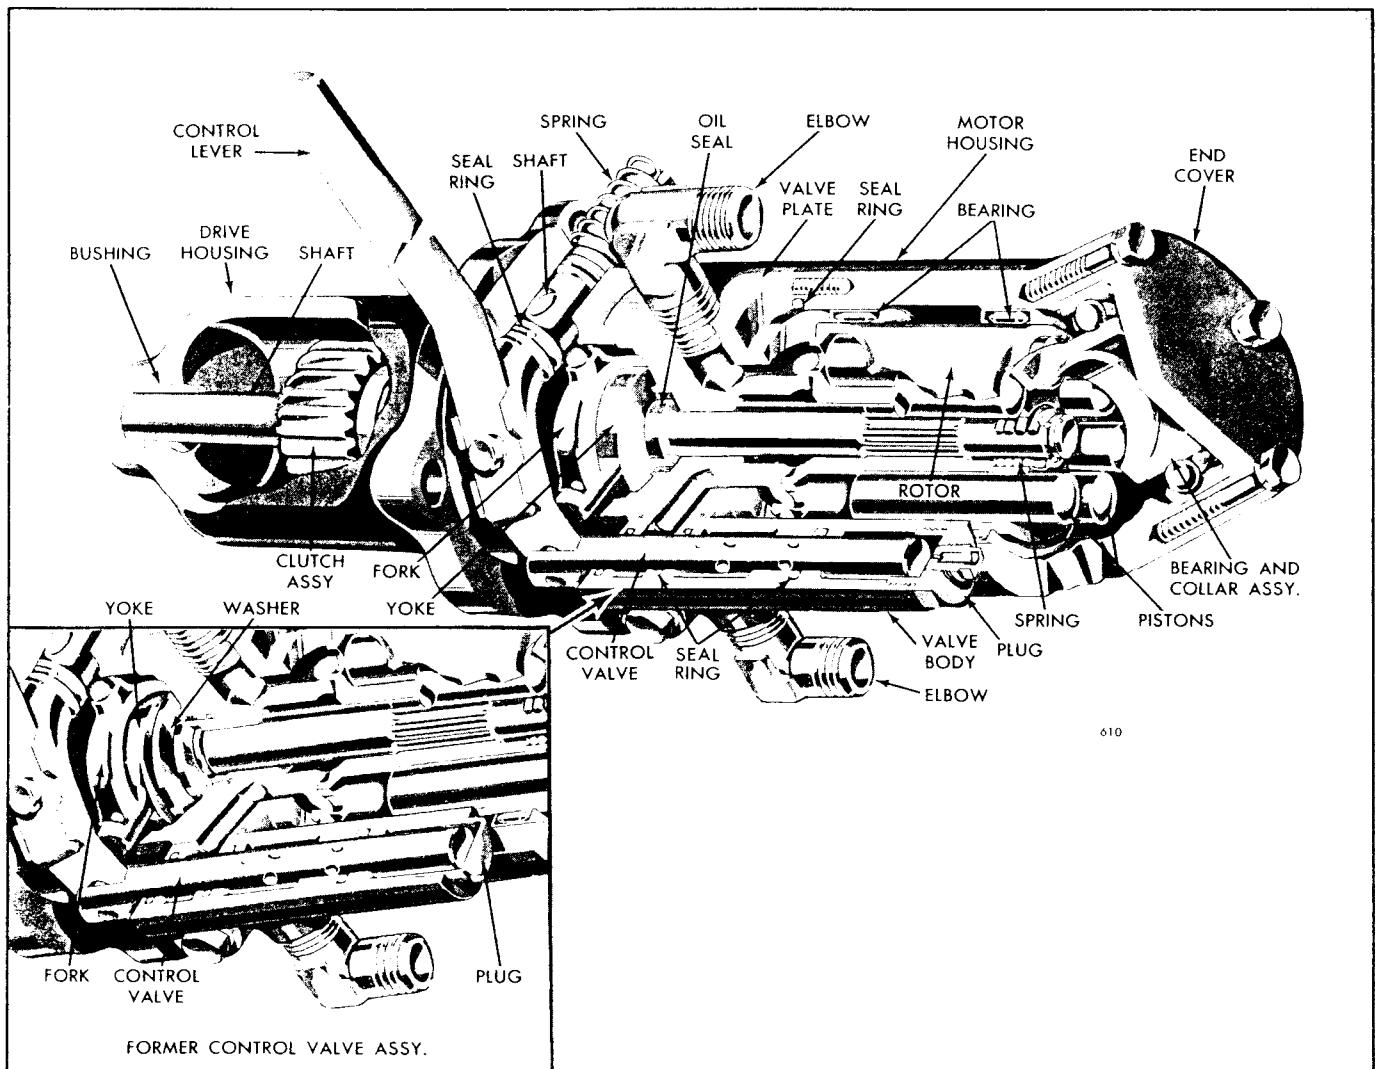

Fig. 4 - Cutaway View of Hydrostarter
Move the starter control lever (Fig. 4) to engage the starter pinion with the flywheel ring gear and to open the control valve. While holding the lever in this position, operate the hand pump until the starter has turned several revolutions. Then release the starter control lever.
With the engine controls set for start (throttle at least half-open), push the control lever (Fig. 4) to
The Hydrostarter (starting) motor is mounted on the flywheel housing in the same manner as a conventional starting motor. This starting motor has an inherently high rate of acceleration; therefore, the engine is cranked faster than is possible with other starting systems. Right and left-hand starters are achieved by assembling the motor housing (Fig. 4) to the valve plate in one of two positions 180° apart and by changing the drive clutch assembly. The drive housing can be adjusted in 12 different positions to accommodate various flywheel housing configurations.
valve plate and motor housing prior to disassembly to ensure their correct reassembly. Refer to Figs. 4 and 6 and proceed as follows:
8. On the Hydrostarter motors equipped with the former control valve assembly, shown in the inset in Fig. 4, remove the drive shaft oil seal washer from the starter shaft.
The rotor bearings (Fig. 4) should not require replacement; however, if they are worn excessively, a new motor housing and bearing assembly must be installed.
NOTE: The washer between the shaft seal and the clutch yoke (see inset in Fig. 4) is used **ONLY** in the early Hydrostarter motors with the former type control valve. If the Hydrostarter motor is overhauled and a new control valve assembly is installed, remove the washer. However, if the control valve assembly is replaced and the motor is not disassembled, the washer may be left in the motor.
Refer to Figs. 4 and 6 and assemble the Hydrostarter motor as follows:
control valve assembly shown in the inset in Fig. 4.
NOTE: On a former control valve body, shown in the inset in Fig. 4, press the cup plug against the shoulder in the control valve body.